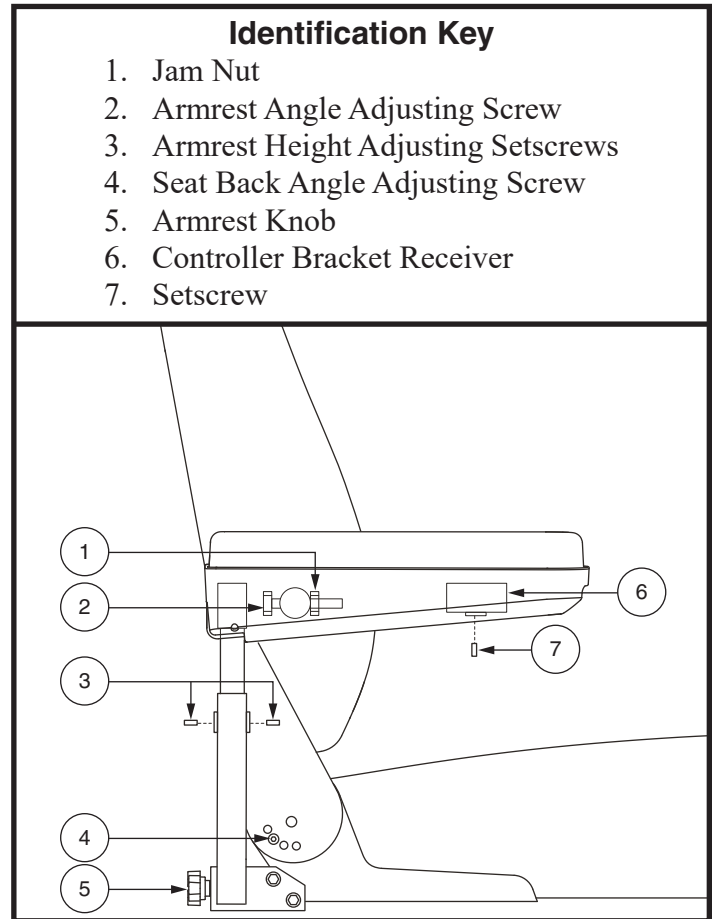

Figure 12. Armrest and Seatback Adjustments
**NOTE:** The most common configuration of the seat adjustment hardware is shown in figure 12. Your product may be equipped with a different configuration. All configurations operate in a similar manner.
1. Remove the adjusting screws from each seat hinge. See figure 12.
1. Locate the adjustment hardware on each side of the armrest receiver bracket. See figure 12.
2. Loosen the jam nut. See figure 12.
1. Loosen the setscrews on the armrest. **See figure 12.**
2. Loosen the setscrew on the controller bracket. **See figure 12.**
5. Loosen the setscrew on the underside of each armrest. **See figure 12.**